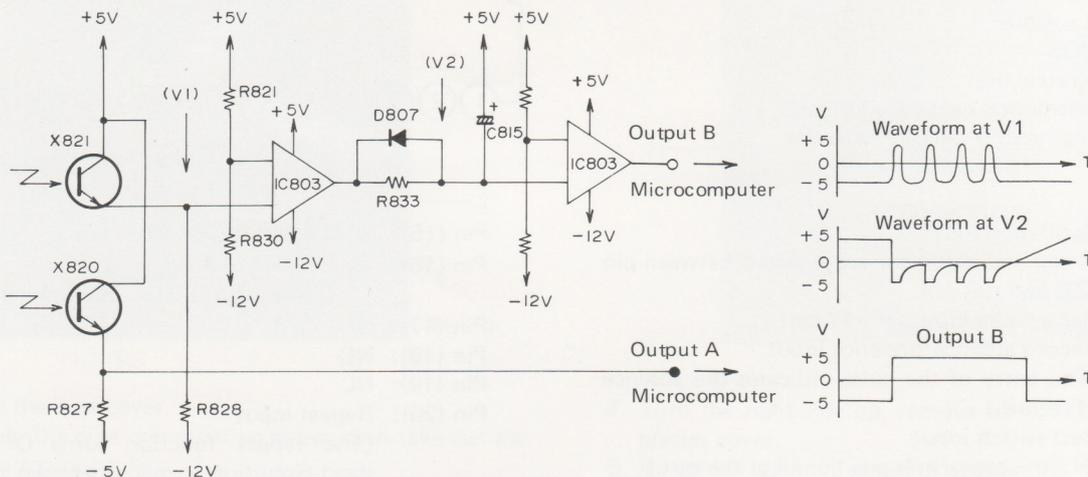

Fig. 4
- Output B is converted to a continuous signal by the circuit shown in Fig. 4 before entering the microcomputer.